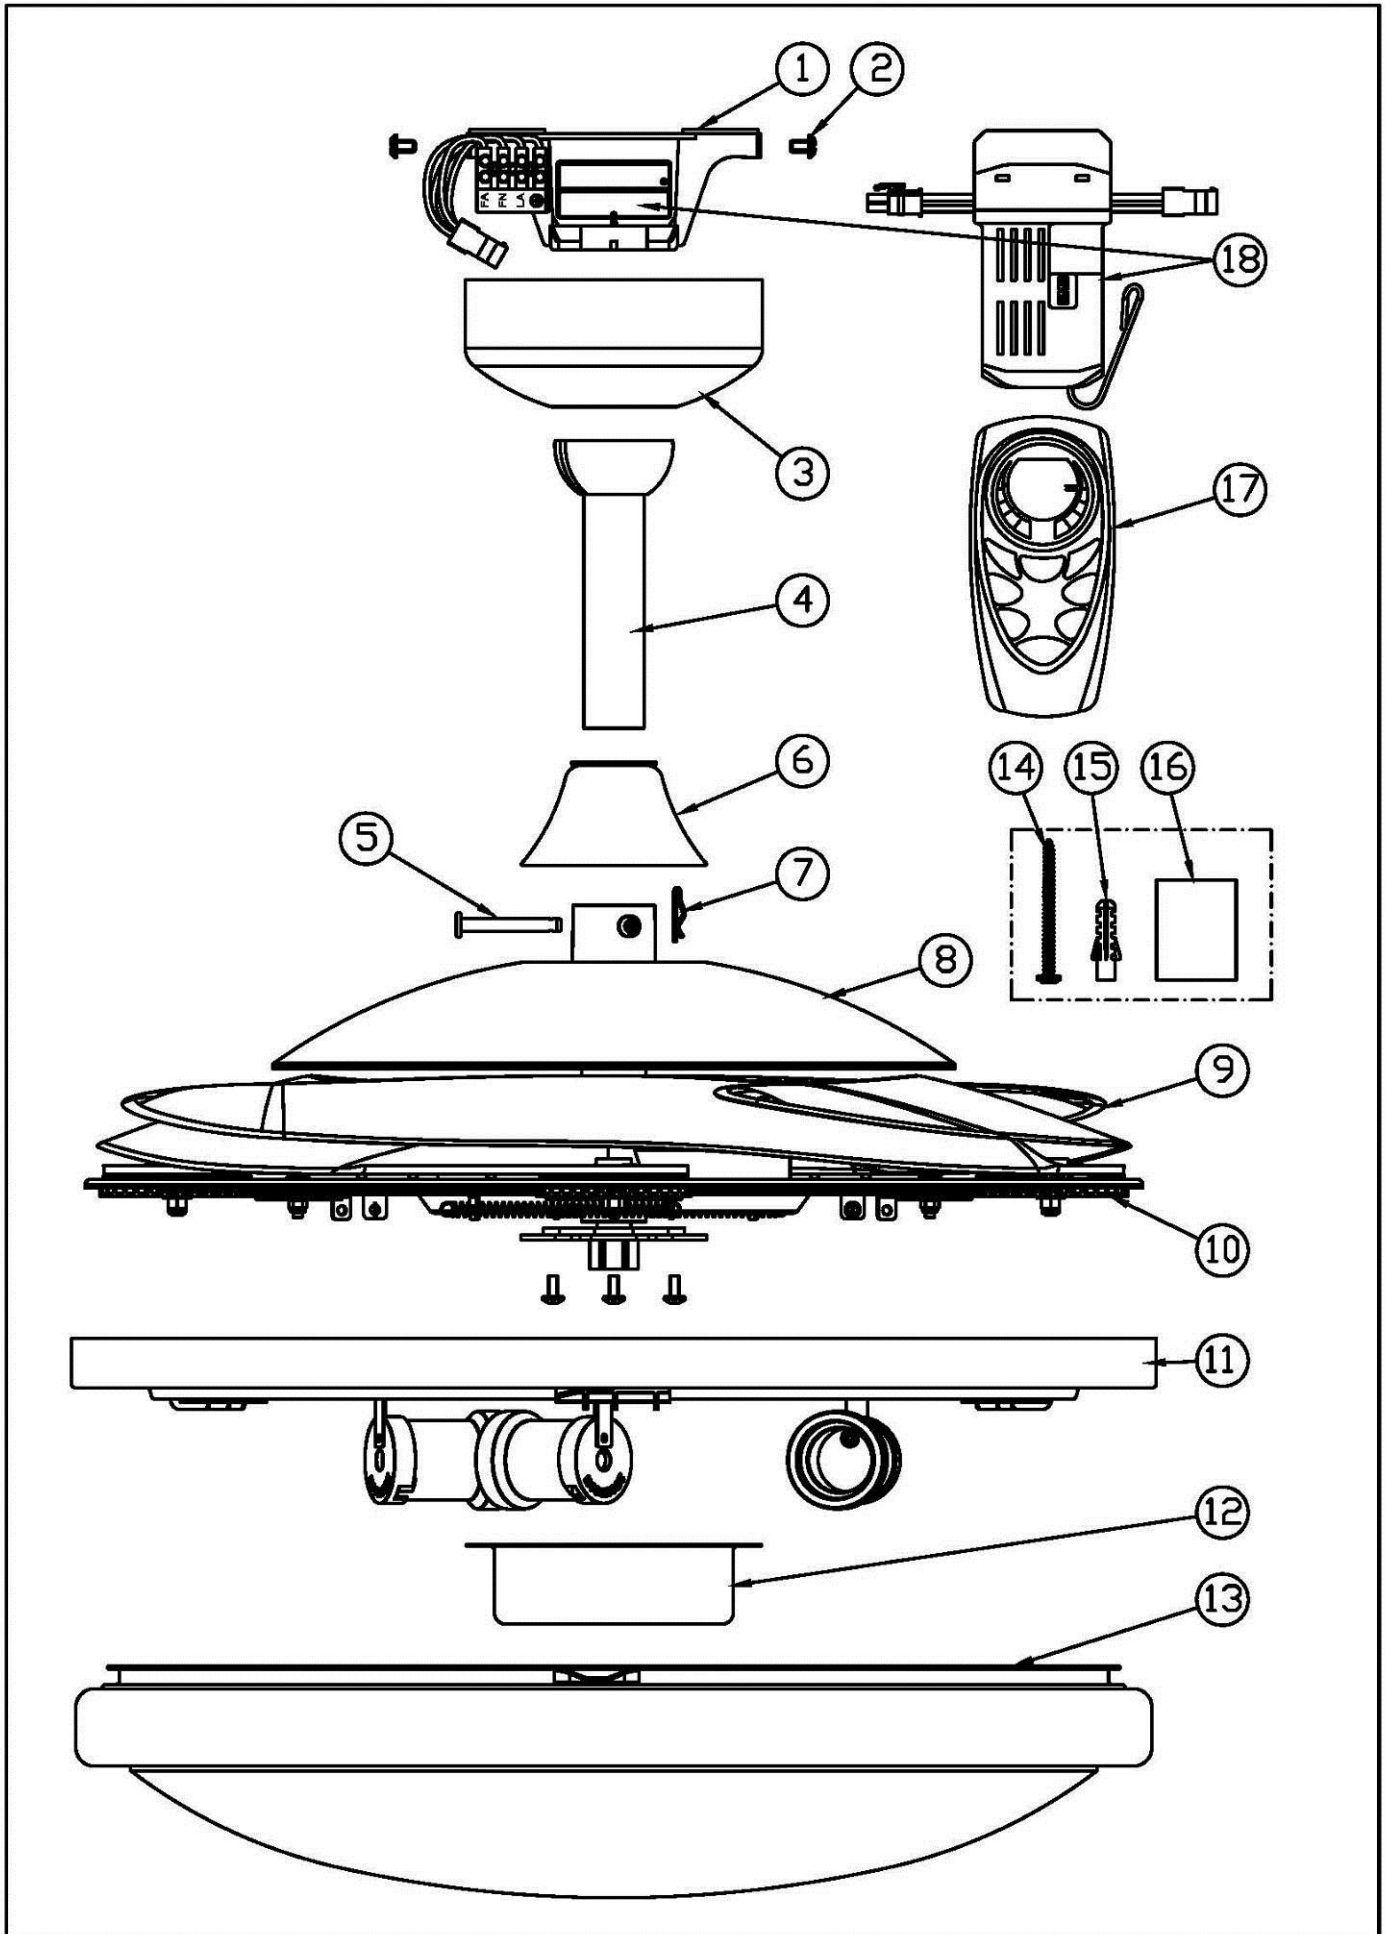

Figure 1.
Unpack the fan and carefully identify the parts. Please refer to FIGURE 1.
- 1) Remove ceiling canopy (No. 3 – Fig. 1) by loosening the 2 screws with slots.
- 1) Feed down rod through ceiling canopy (No.3– Fig. 1) and bolt and pin cover (No.6– Fig. 1).
- 3) Insert down rod (No.4– Fig. 1) to the top of the unit (No.8– Fig. 1), line up unit holes with down rod holes and insert bolt (No.5– Fig. 1). Then insert pin (No.7– Fig. 1) to end of bolt.
- 2) Insert the remote receiver in mounting bracket (No.1- Fig.1).